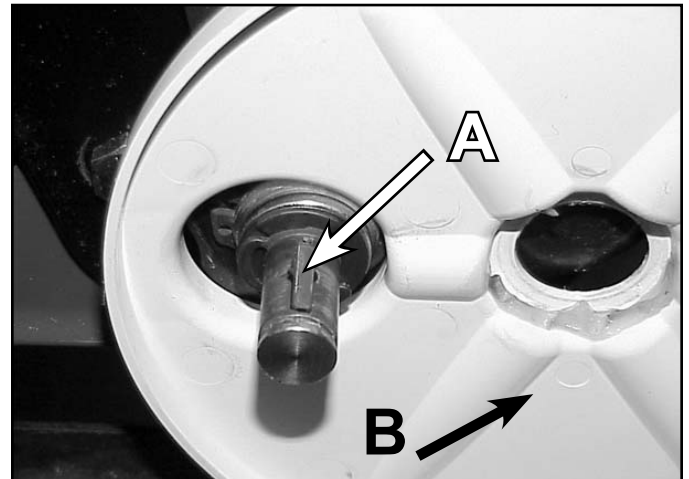

Fig 044
7. To remove the wheel pinions, remove the clip ring and thrust washer. The pinion will now slide off the axle (Fig. 044).